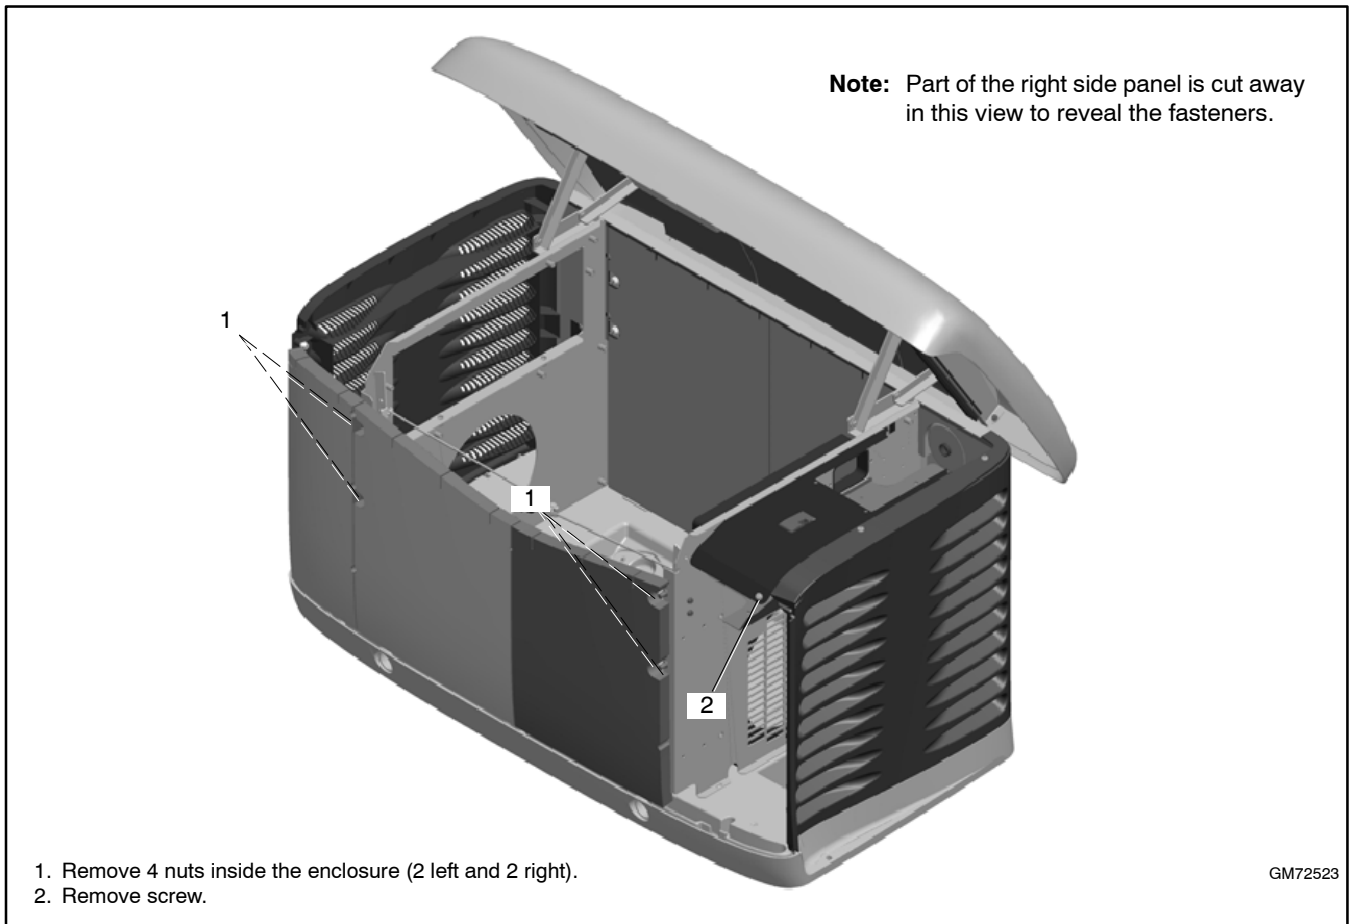

Figure 7-4 Right Side Panel
a. Remove two nuts on each side (total of four nuts). See Figure 7-4.